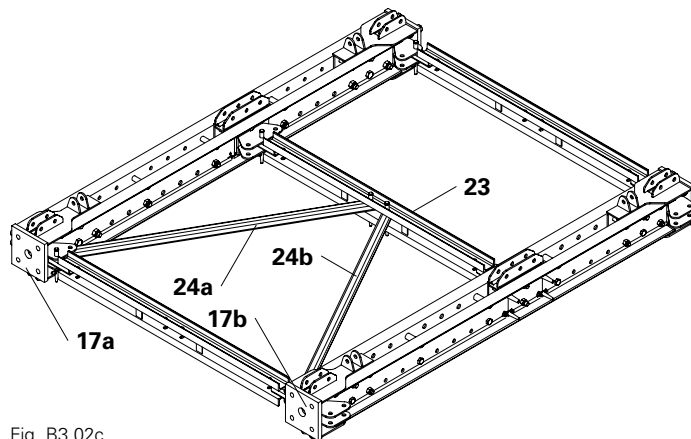

Fig. B3.02c
5. Secure both Diagonal Struts VST 200/150 (**24**)* to the Horizontal Ledgers VST 200 (**23**) using 1x Fitting Pin \varnothing 21 mm (**9**) respectively. (Fig. B3.02c)